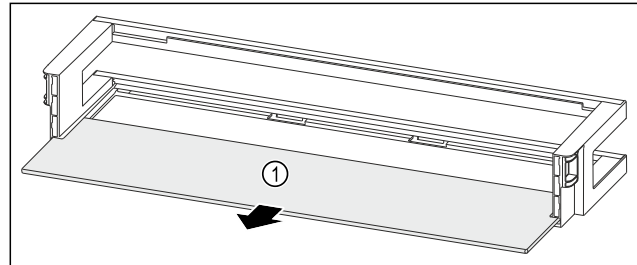

Fig. 241 Door rack with shelf
- ▶ Remove the shelf Fig. 241 (1).